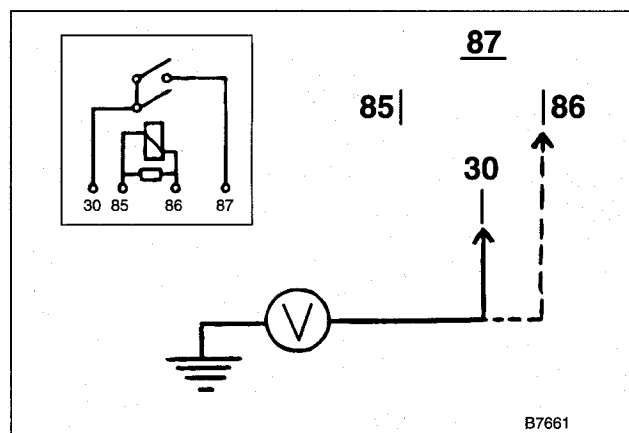

Fig. 7. Check for battery voltage at main relay terminals 30 and 86. Voltage should be present at all times.
2. Check for voltage at terminal 30 and terminal 86 of relay socket. See Fig. 7.